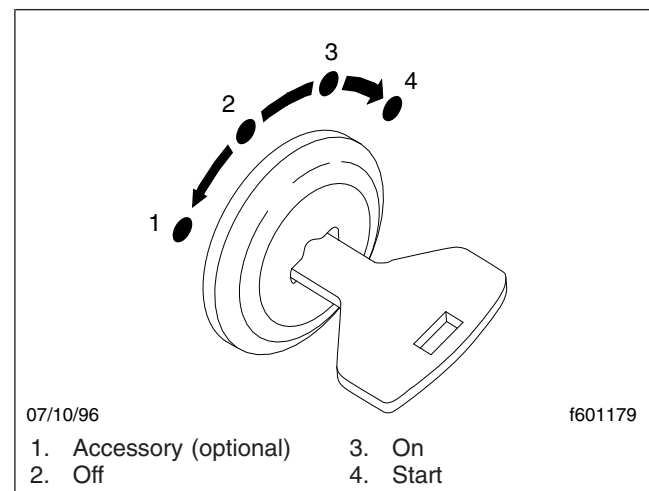

Fig. 16.16, Four-Position Ignition Switch
3. Turn the ignition switch to the ON position. See Fig. 16.16 for the four-position ignition switch. If the yellow WAIT TO START indicator light illuminates or WAIT appears on the display screen, leave the ignition switch in the ON position until either the WAIT TO START light goes out or WAIT no longer appears on the display screen. See Table 16.2 for further information concerning the hydraulic hybrid wait to start status.